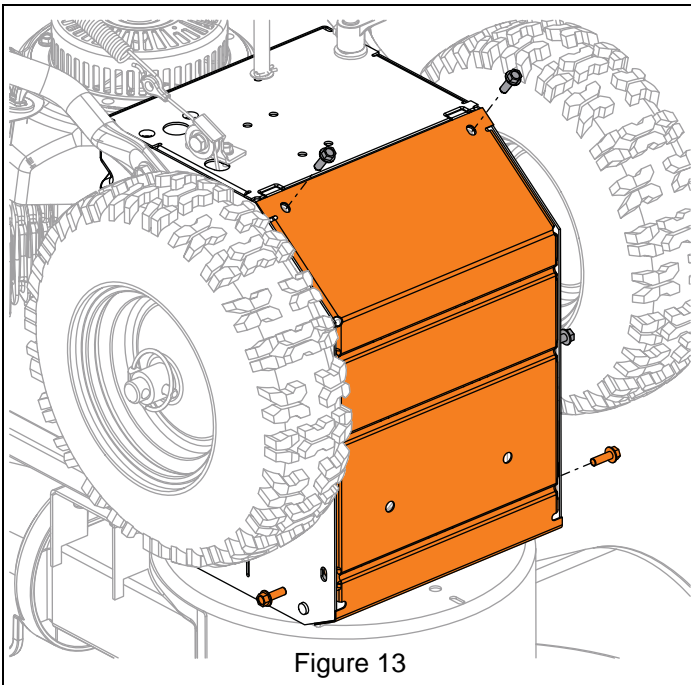

Figure 13
4. Remove hardware retaining bottom cover to frame and remove cover. See Figure 13.